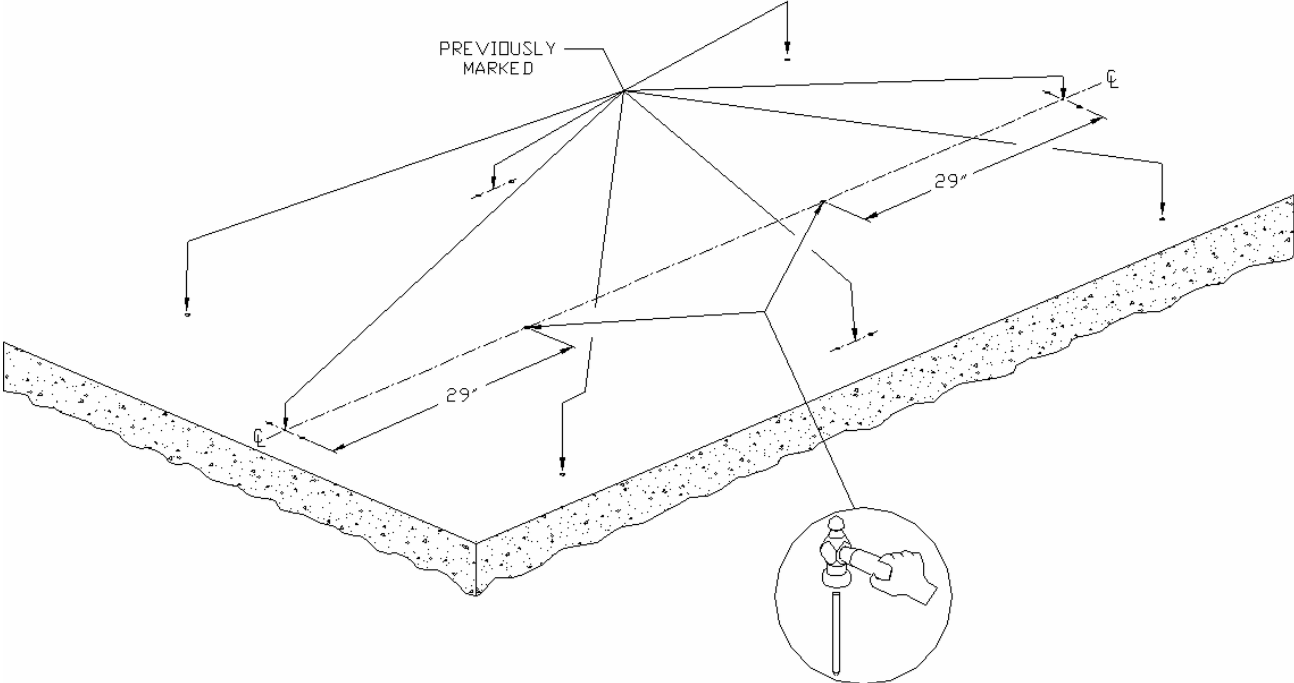

Figure 4
- 6. Mark center point for lower flanges to coincide with center of bottom plates. Using punch mark a point on the center line 29" from the center of the middle shield assembly mounting holes, (Right and Left hand sides). See Figure 4.